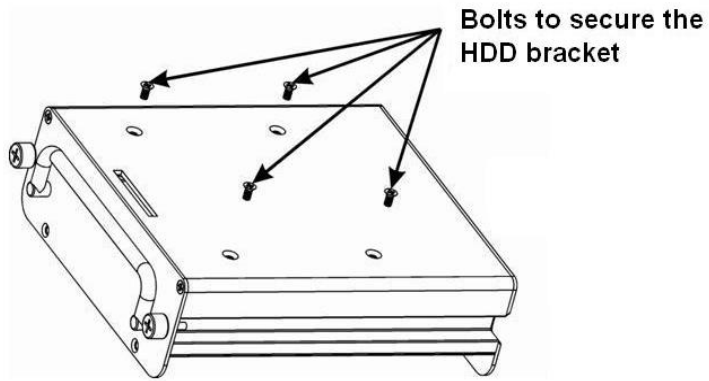

Figure 3-2
2) Now you can see an interface shown as in Figure 3-2. Remove the four bolts from the HDD bracket and then take out the bracket from the HDD box. Pull out the cable from the cable exit.